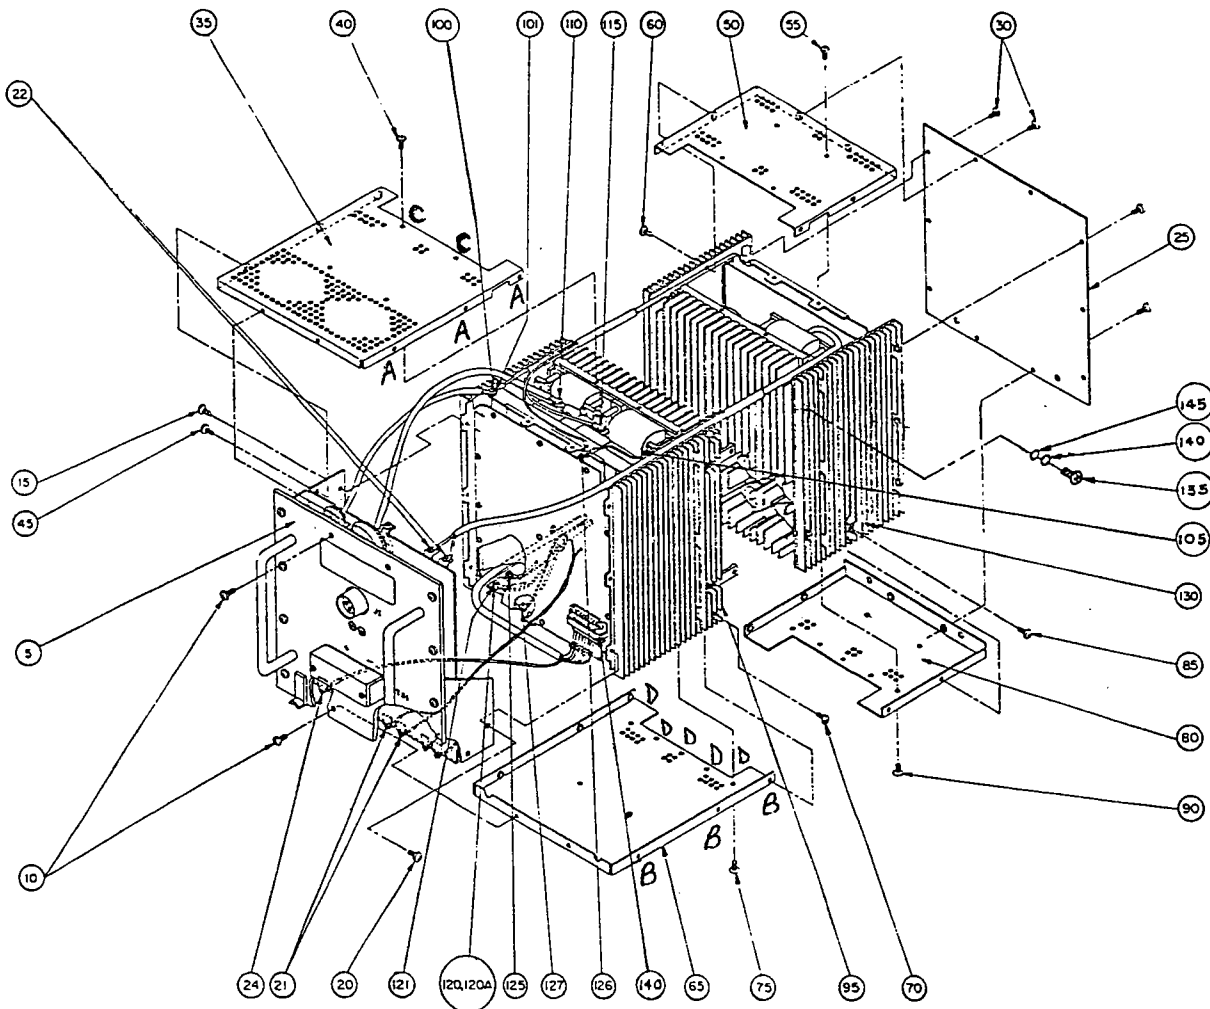

FIGURE 1
Replacement of resistors R8 and R9 will require the operator to gain access to the EMI Printed Circuit Board Assembly located in the front half of the static inverter (See Figure 1).
1. - Removing four (4) 4-40 screws on top cover, item (40) of figure 1;
2. - Remove six (6) 4-40 screws, three (3) on each side of unit, item (45) of figure 1 at location A;
3. - Remove two (2) 4-40 screws from top of front panel, item (10) of figure 1;
1. - Remove seven (7) 4-40 screws on bottom cover, item (75) of figure 1.
2. - Remove six (6) 4-40 screws, three (3) on each side, item (70) of figure 1 at location B.
3. - Remove two (2) 4-40 screws from bottom of front panel, item (10) of figure 1.
1. - Remove two (2) 6-32 screws item (22) of figure 1 and disconnect input filter cable harness.
3. - Remove one (1) 6-32 screw, item (100) of figure 1 and disconnect input power lead.
4. - Remove one (1) 8-32 screw, item (110) of figure 1 and disconnect input power lead.
6. - Remove one (1) 4-40 screw, item (24) of figure 1 and disconnect the remote on/off lead.
7. - Remove two (2) 4-40 screws, item (21) of figure 1 and disconnect overtemperature sense leads.
9. - Remove six (6) 4-40 screws, items (20) and (15) of figure 1, three (3) on each side.